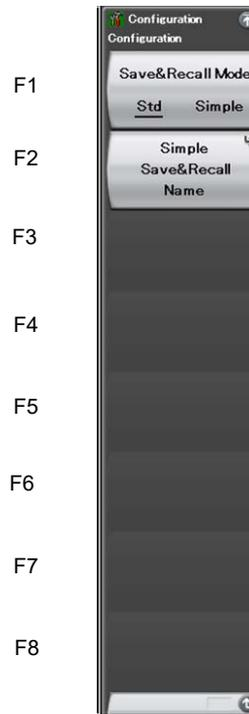

Figure 3.6.4-1 Save&Recall Settings menu
3. Press  (Save&Recall Settings) to display the Save&Recall Settings menu in Figure 3.6.4-1.